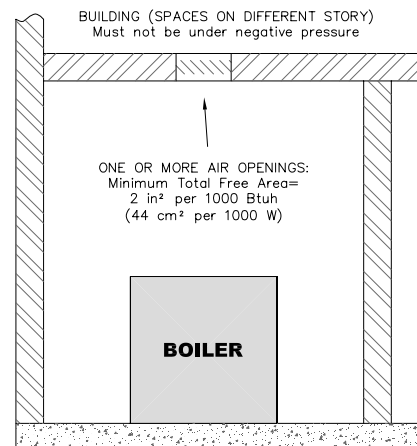

Figure 1.2: Air Openings – All Air from Indoors on Different Floors
- Combining spaces on different floors:** Provide one or more permanent openings communicating with additional spaces that have a total minimum free area of 2 in² per 1000 Btu/hr (44 cm² per 1000 W) of total input rating of all equipment. See Figure 1.2 for an illustration of this arrangement.